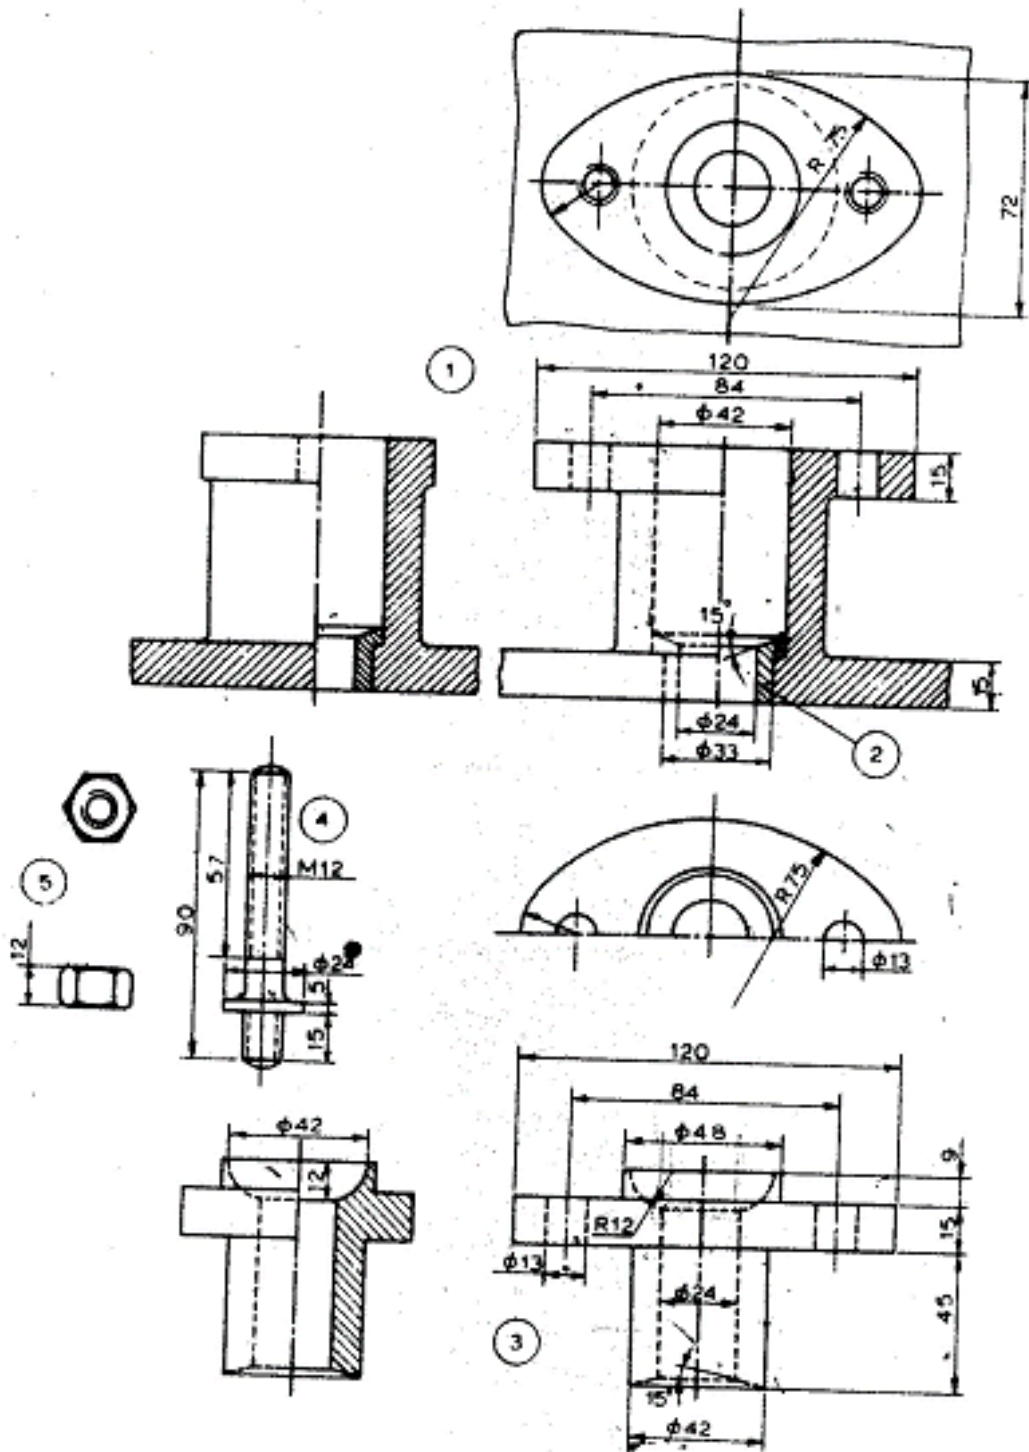

Figure 2:
2. Details of a Stuffing Box are given in the figure 2.